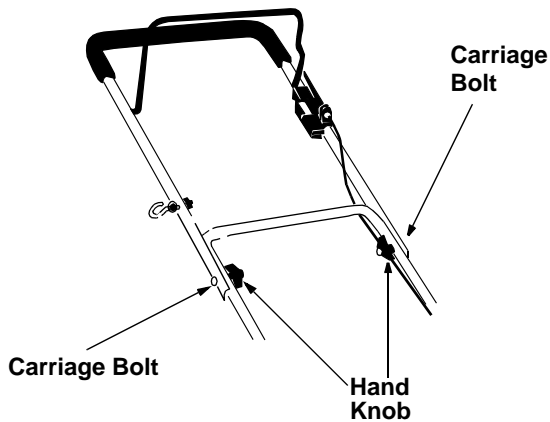

Figure 1
- Pull up and back on the upper handle to raise the handle into the operating position. Make certain the lower handle is seated securely into the handle mounting brackets. Tighten the hand knobs on each side of the handle (carriage bolts must be seated properly on the handle). See Figure 1.